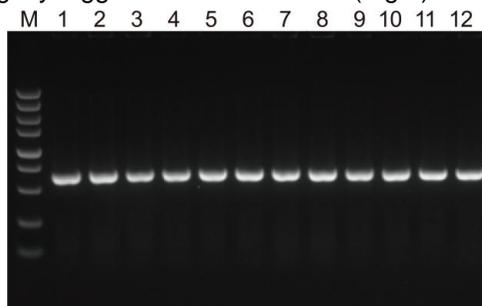

Fig 2. Agarose Gel Electrophoresis of Colony PCR Products
- 6.2 Pick several mono-colonies from the plate of recombination reaction for colony PCR with at least one common sequencing primer of the vector. If the colony is positive, there should be a band which length is slightly bigger than that of insert (Fig 2).